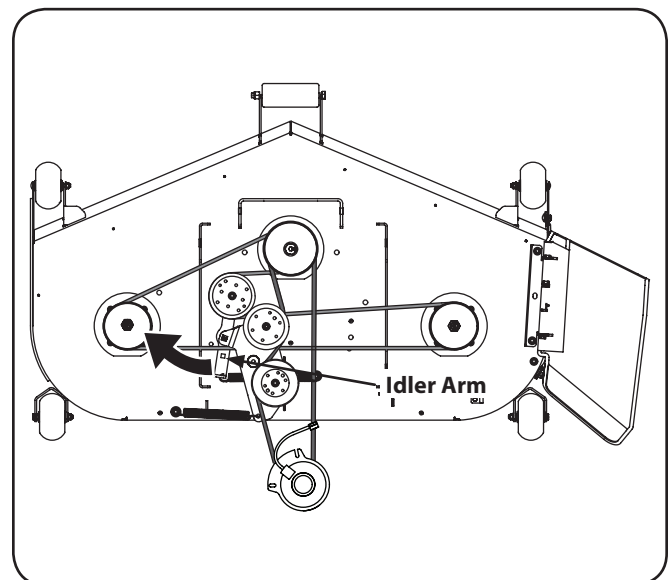

Figure 7-11
- Using a $\frac{1}{2}$ " socket breaker bar or socket ratchet insert the male end into the $\frac{1}{2}$ " square opening in the lower idler arm assembly/idler pulley bracket and pull the idler arm/pulley bracket clockwise. See Figure 7-11. While holding the idler arm back, loosen the deck belt from the pulleys and slide the belt away from the pulley.